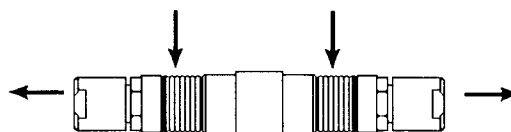

Figure 14 — Disconnecting Cables
1. Refer to Figure 14. Hold only at points indicated to disconnect cables having connector style as shown.